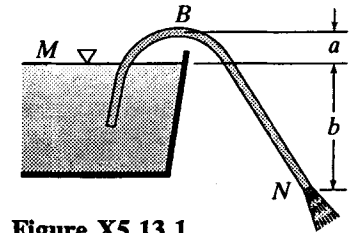

Figure X5.13.1
5.13.2 Assume there is friction head loss in the siphon of Fig. X5.13.1, where $a = 3$ ft, $b = 12$ ft. The loss between the intake and B is 2.5 ft and between B and N is 3 ft. What is the rate of discharge and pressure head at B when the diameter is 6 in?